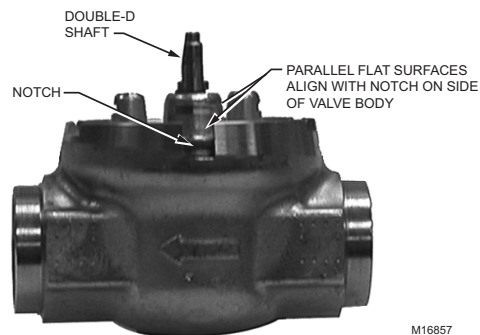

Fig. 4. Shaft Position.
1. Align the parallel flat surfaces in double-D shaft of the valve body with notch in side of body (i.e. 90° to water flow.) See Fig. 4. This makes actuator attachment easier.